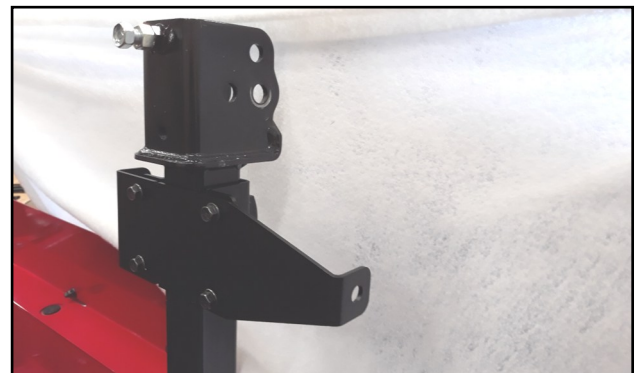

Fig. 3.1 (Attach ROPS Clamp Brackets)
- 3.1 Slide a ROPS clamp over the left flasher mounting tab and bolt on a ROPS bracket. See Figure 3.1.